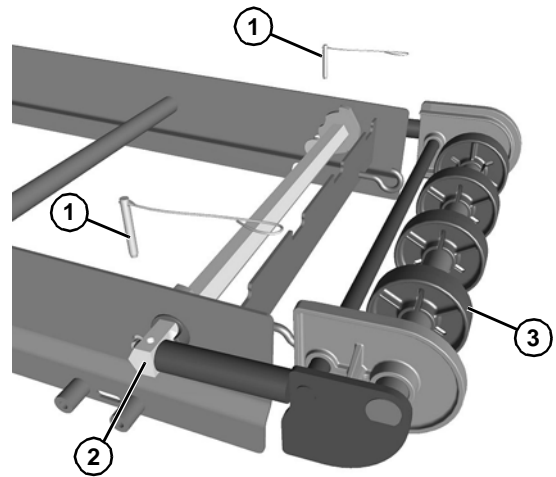

Figure 63
1. Remove the pull pins (Figure 63, item 1) from tip up hex shaft assembly (Figure 63, item 2).
2. Slide the idler tail assembly (Figure 63, item 3) out of the tip up hex shaft assembly.